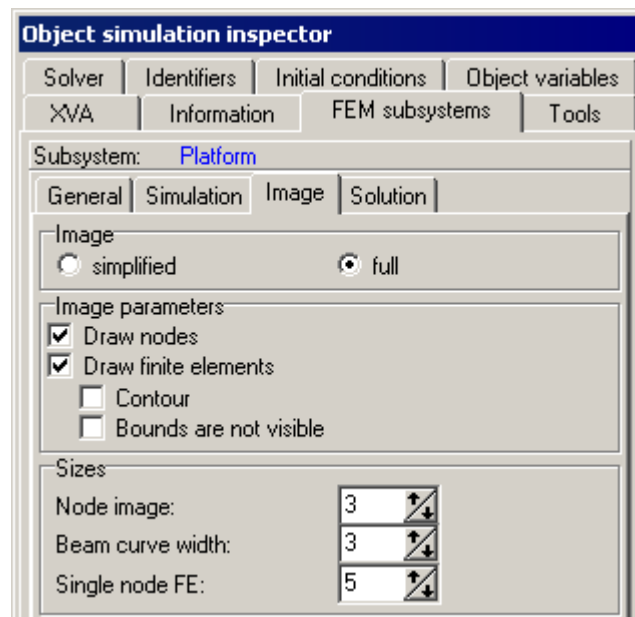

Figure 3.26.
4. Let us select some node of the FEM-model where we will calculate **Z** components of position and acceleration. If the animation window does not show nodes of FE mesh, select the **FEM subsystems / Image**. Set **Image** to **full**. Turn on the **Image | Draw nodes** check box. Set non-zero value in **Node image**, for example 3, see Fig. 3.26.